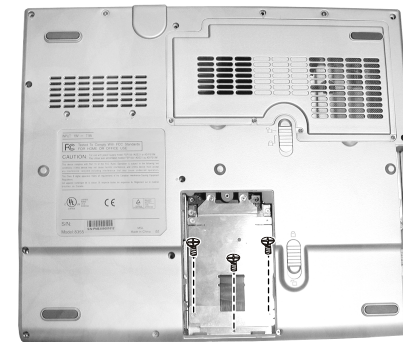

Figure 2-12 Remove three screws that secure the top shielding
4. Remove three screws that secure the top shielding of the hard disk drive. (Figure 2-12)